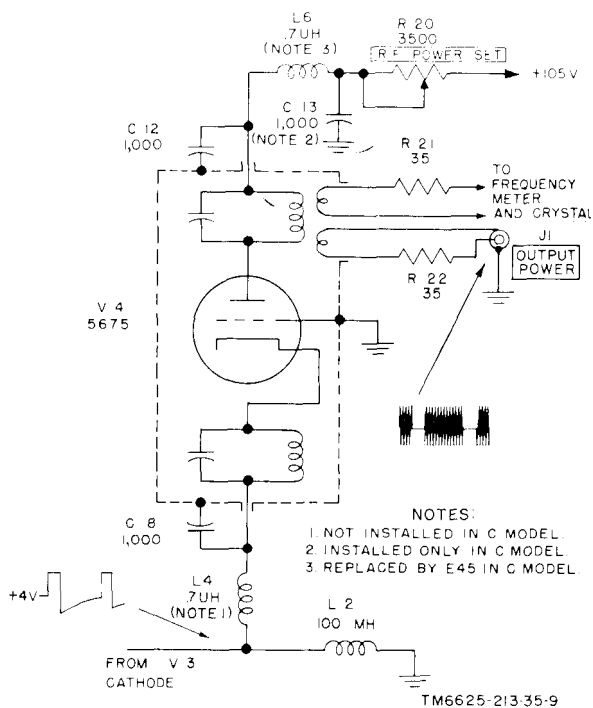

Figure 7. Test Set TS-538(\*)/U, rf oscillator V4, simplified schematic diagram.
- (2) At the end of the positive pulse, the plate current of V3 is reduced sharply to its original value. The sudden decrease of current through the cathode coil causes a voltage to be induced in L2 which drives the cathode voltage below its original value of +4 volts; then, during the interval between pulses, the cathode voltage gradually rises to its original value of +4 volts in preparation for the next input pulse. The gradual rise in cathode voltage is caused by charging capacitor C8 (fig. 7) which is connected to the cathode of V3 through L4. In the TS-538C/U, L4 is omitted. The cathodes of V3 and V4 are
*d. Oscillator Theory.* The simplified schematic diagram of the rf oscillator circuit (fig. 7) represents the circuit used in Test Set TS-538(\*)/U.
- (5) The R. F. POWER SET control (R20, fig. 7) adjusts the dc voltage applied to the plate of oscillator tube V4. The amount of output power obtained from the oscillator is controlled in this manner.